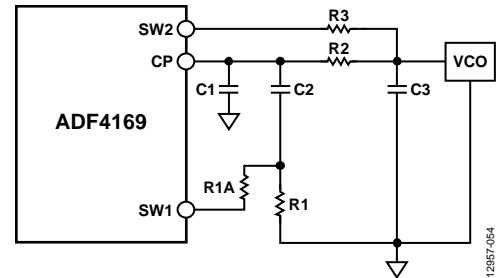

Figure 53. Fast Lock Loop Filter Topology 2
- Connect an extra resistor (R1A) directly from SW1 (see Figure 53). The extra resistor must be selected such that the parallel combination of an extra resistor and the damping resistor (R1) is reduced to  $\frac{1}{4}$  of the original value of R1.